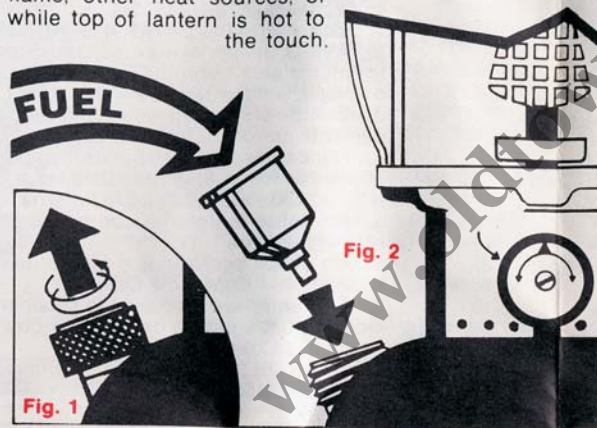

Fig. 2
1. Close valve wheel firmly by turning to right. (Fig. 2)